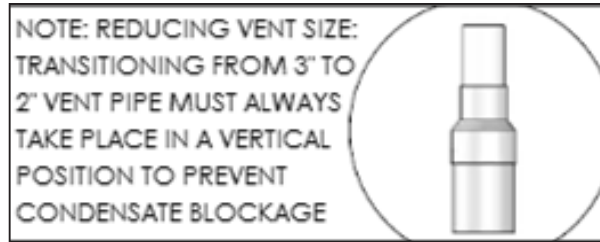

Figure 8 – Transitioning from 3" (7.6 cm) to 2" (5.1 cm) Vent Pipe
5. For 2" (5.1 cm) installations, install the reducing coupling in a vertical section of pipe. At least a 6" (15.2 cm) length of 3" (7.6 cm) pipe MUST BE INSTALLED before reducing to 2" (5.1 cm). See Figure 8